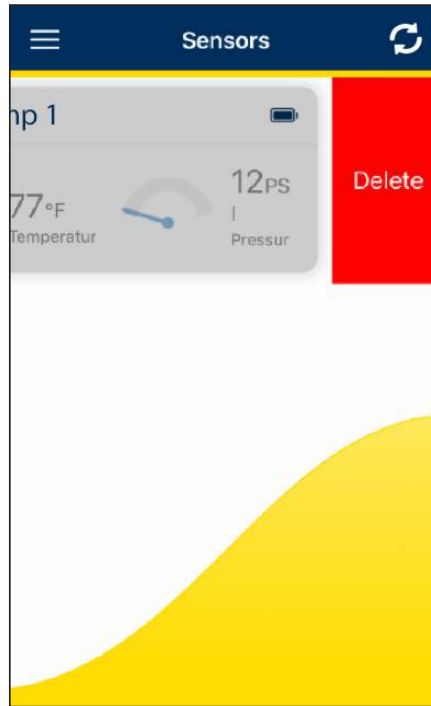

Figure 44
2. Select **Delete** (see figure 44).